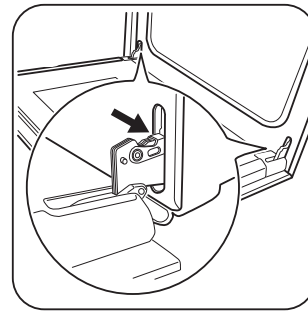

Figure 21: Door hinge location
1. Open the door fully, horizontal with the floor, and hold the two door hinges (Figure 21).
2. Holding the oven door at the same angle as the removal position, seat the hook of the hinge arm over the roller pins located on each side of the oven door frame (Figure 21). The hook of the hinge arms must be fully seated onto the roller pins.